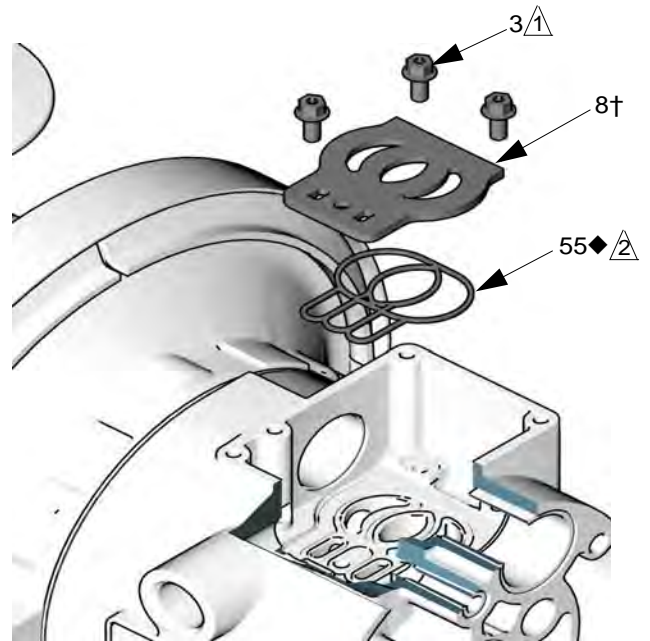

FIG. 8
5. Inspect the valve plate (8) in place. If damaged, use a Torx (T20) screwdriver or 7 mm (9/32 in.) socket wrench to remove the three screws (3). Remove the valve plate (8). See FIG. 8.
2. On models with aluminum center housing, install the valve plate seal (55◆) into the groove at the bottom of the valve cavity. The rounded side of the seal **must face down** into the groove. See FIG. 8.
3. Install the valve plate (8†) in the cavity, seal down. Install the three screws (3), using a Torx (T20) screwdriver or 7 mm (9/32 in.) socket wrench. Tighten until the screws bottom out on the housing. See FIG. 8.